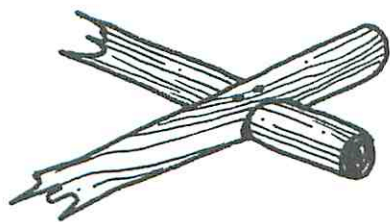

Figure 1
Get the pieces you have chosen for your rails (A). You will need to notch two of these, about 7" from each end, so they will fit snugly on top of the other two pieces. See. Fig. 1.